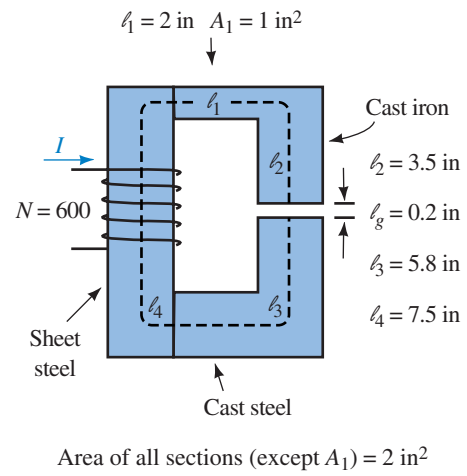

FIGURE 12-52
22. For the circuit of Figure 12-52, $\Phi = 25,000$ lines. The stacking factor for the sheet steel portion is 0.95. Find current I .
23. A second coil of 450 turns with $I_2 = 4$ amps is wound on the cast steel portion of Figure 12-52. Its flux is in opposition to the flux produced by the